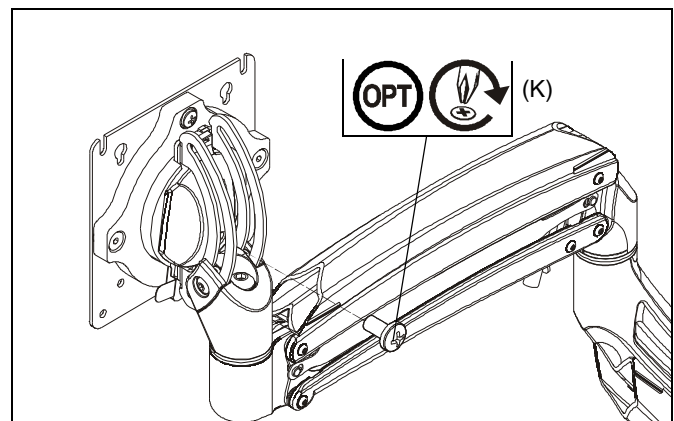

Figure 25
**NOTE:** In order to prevent display from being easily removed from mount using the quick release lever, install M4x4mm security screw (K) into lower hole on back of faceplate. (See Figure 25)